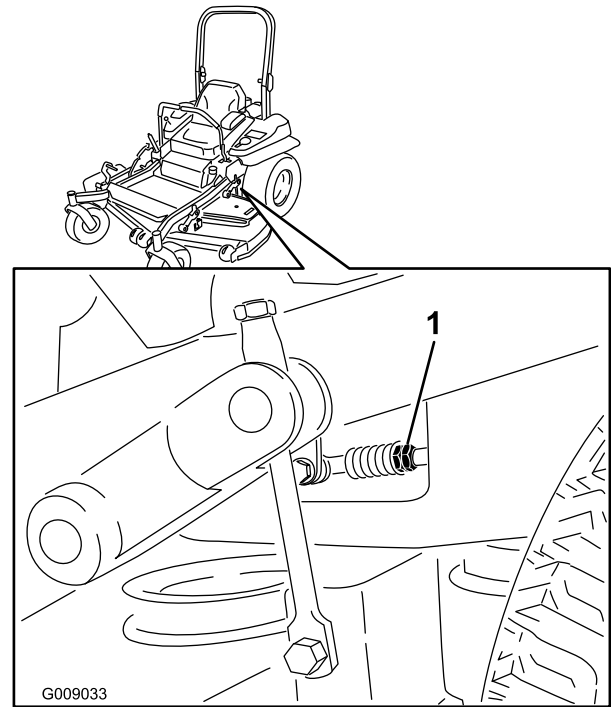

Figure 86
7. Bring the motion control levers into the neutral position. Adjust pump control rod lengths by rotating the double nuts on the rod in the appropriate direction until the wheels slightly creep in reverse (Figure 86). Move the motion control levers to the reverse position and while applying slight pressure to the lever allow the reverse indicator springs to bring the levers back to neutral. The wheels must stop turning or slightly creep in reverse.